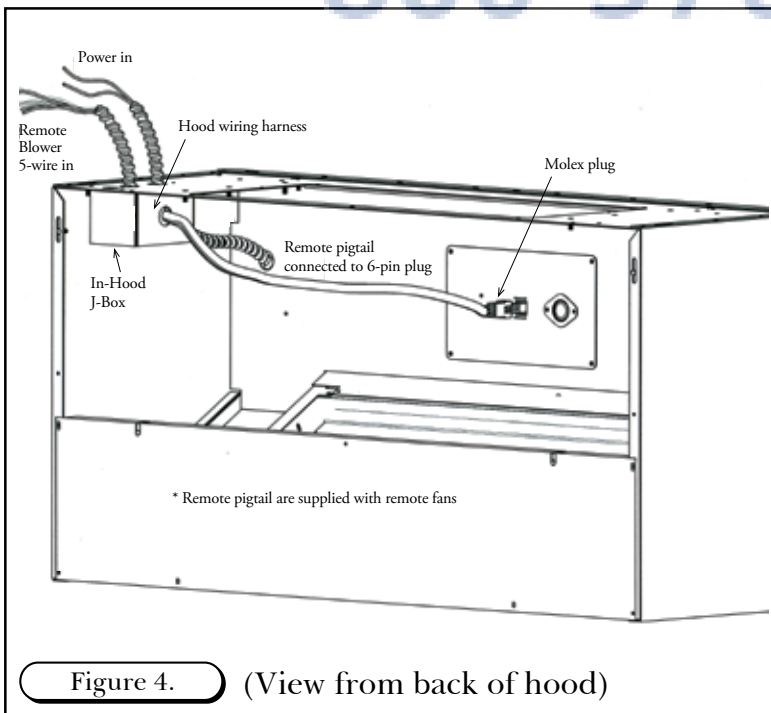

Figure 4. (View from back of hood)
6. Connect the "Molex" from the fan to the "Molex" plug on the hood. (See Figure 4.) (Page 4)